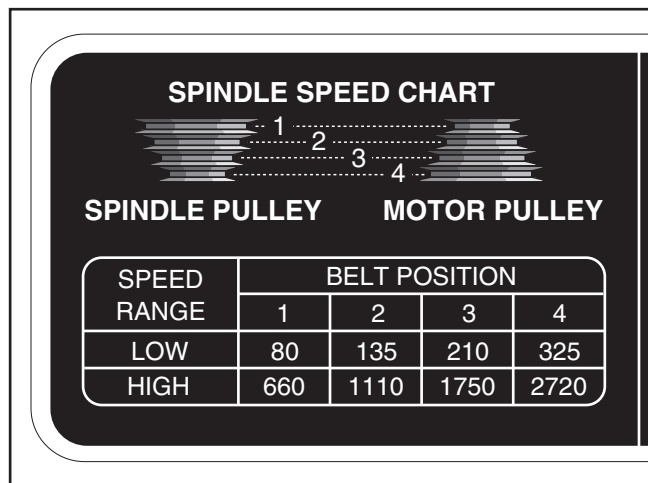

Figure 41. Model G0796 spindle speed chart.
- Refer to spindle speed chart on front of head-stock (see **Figure 41**), and position V-belt on pulleys for desired spindle speed.